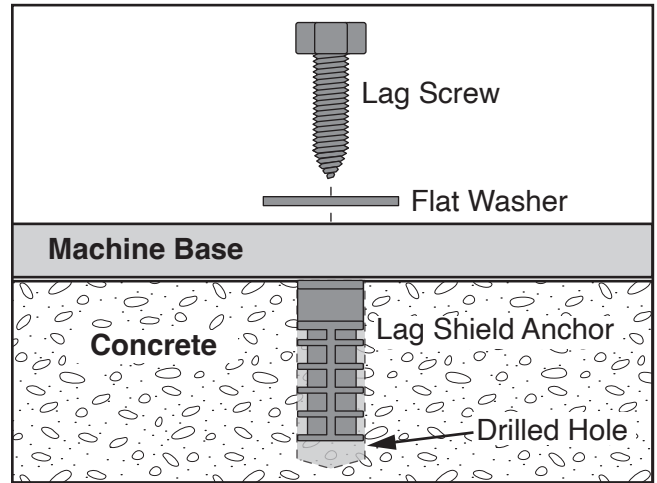

Figure 8. Anchoring base with lag screw.
1. Place pedestal base in desired location, and mark (3) mounting hole locations on floor.
2. Remove pedestal base and drill (3) holes in concrete, then clear holes thoroughly with vacuum.
3. Insert 3/8" lag shield anchors, then lightly tap with hammer until flush with floor as shown in **Figure 8**).
4. Reposition pedestal base and install with (3) 3/8" x 3" lag screws and 3/8" flat washers (see **Figure 8**).